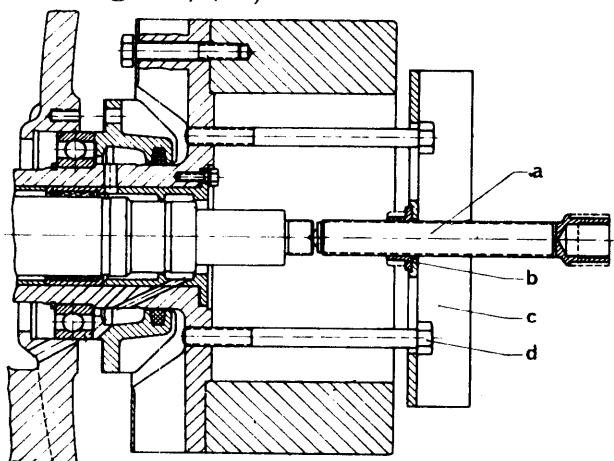

Fig. 8/7a
- 5) Use pulling device 423 to withdraw clutch drum assembly 1a-t (fig. 15/2) from the worm wheel shaft in the following manner (see fig. 8/7a):
- a) Attach pulling device a-c as illustrated in fig. 8/7a (with nut b towards the clutch side) and fasten it to clutch drum by means of screws d (M12x140).